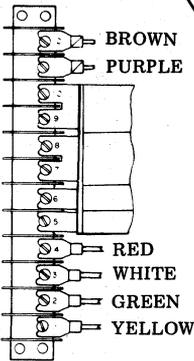

Fig. 11—Terminal Block Wiring
4.01 Install the power supply in a working 40C400 controller (Fig. 11 and 12). (Refer to Section 582-200-700 for removal and installation of 40PSU102.)